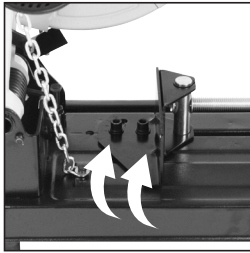

FIG. 7
- Loosen the two (2) M10 socket headed screws (**Fig. 7**)